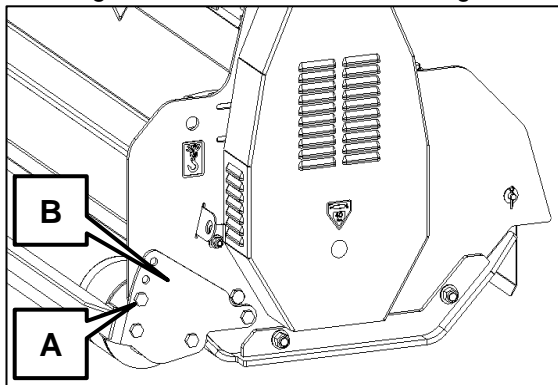

Figure 6.1
The cut height can be adjusted by raising or lowering the flail mower roller to suit the material to be cut and the required degree of chopping, see Figure 6.1. Support the skids at both ends by blocks. The size of the blocks should be sufficient to give enough free movement of the roller bracket (B) to achieve the desired cut height. Ensure that the machine will not slide off the blocks. Support the roller appropriately - it is heavy! Undo setscrew (A) on the roller bracket at both ends of the machine. Raise or lower the roller to the desired height by aligning one of the roller bracket setscrew holes with the hole in the cowl side plate. Make sure that the same hole is selected at both ends. Failure to do this will produce an uneven cut. With the roller still supported, re-fit and re-tighten the setscrews on both roller brackets. Remove the roller support and the blocks to lower the machine to its new cut height.